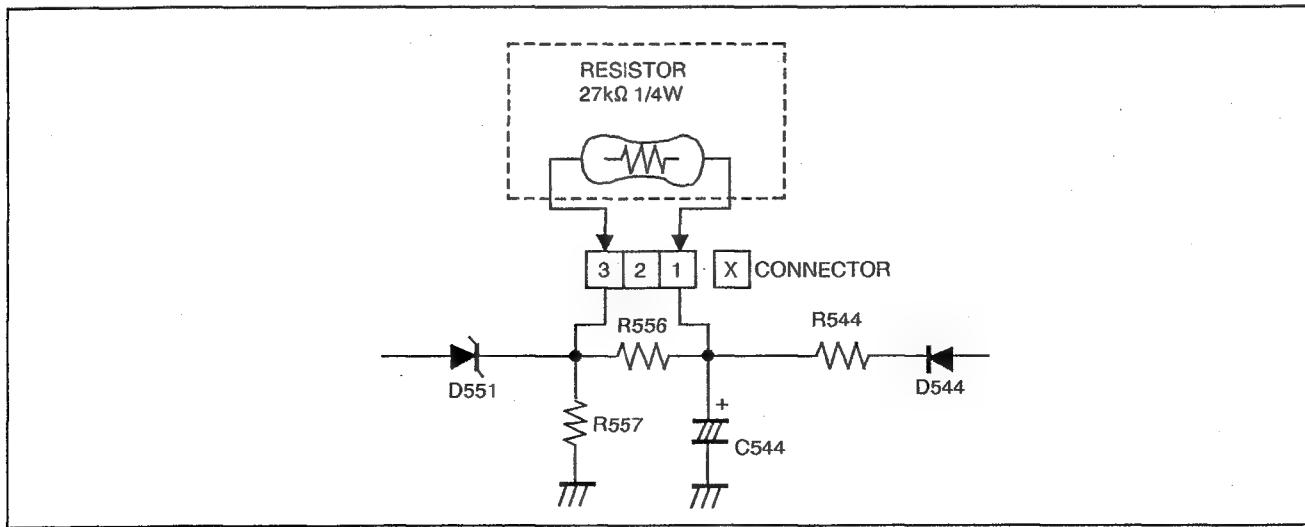

Fig. 2
- (1) Turn the POWER SW ON.
- (2) As shown in Fig. 2, set the resistor (between X connector [1] & [3]).
- (3) Make sure that the screen picture disappears.
- (4) Temporarily unplug the power cord.
- (5) Remove the resistor (between X connector [1] & [3]).
- (6) Again plug the power cord, make sure that the normal picture is displayed on the screen.